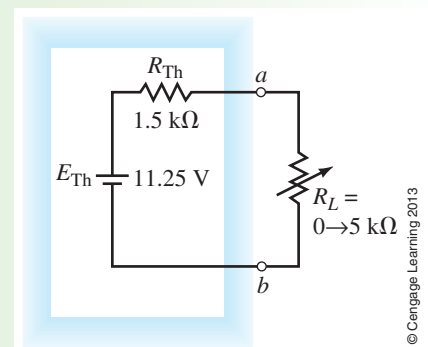

FIGURE 9-18
Step 6: The resulting Thévenin equivalent circuit is shown in Figure 9-18.